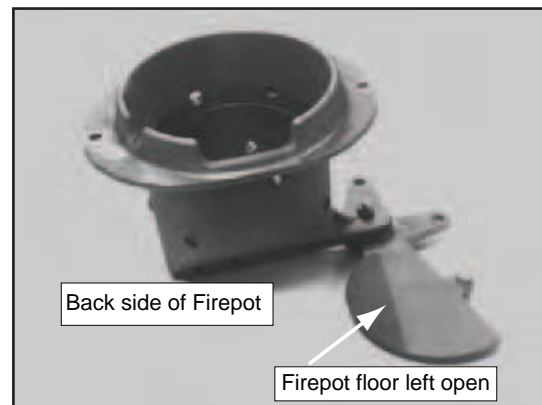

Figure 26.2 - DO NOT LEAVE FIREPOT FLOOR OPEN
3. Occasionally the appliance may run out of fuel and shut itself down. When this happens, the red call light will be on. To restart it, fill the hopper and press the reset button. **Figure 26.2.** When you press the reset button the red call light will go out. Release the button and the light will come back on. You should see a fire shortly. If not, follow the instructions on **page 25**, "Starting Your First Fire".
- c. The firepot floor plate must be fully closed when finished. **See Figure 26.2 on page 26.**